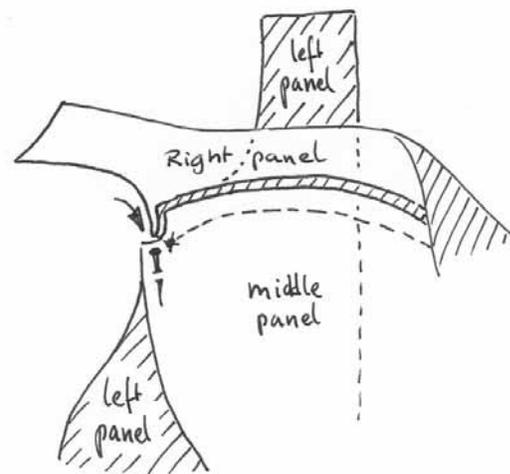
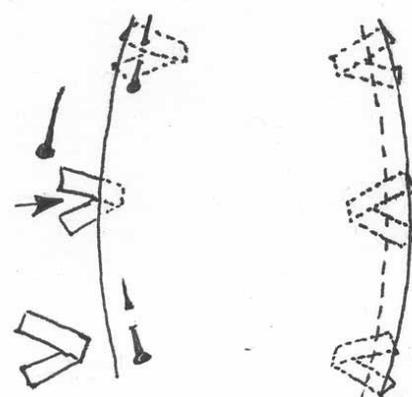

Figure 21
Figure 22
- A. Repeat the operation with the middle and left panels (pinning the edges, inserting the tabs and sewing the first seam). However, in this case, set the pins pointing down, starting at the three-way point as shown on **Figure 21** and start sewing from the bottom of the insert. The insert will look neater if the left-hand loops are placed in the mirror image position with respect to the right-hand ones, as shown on **Figure 22**.